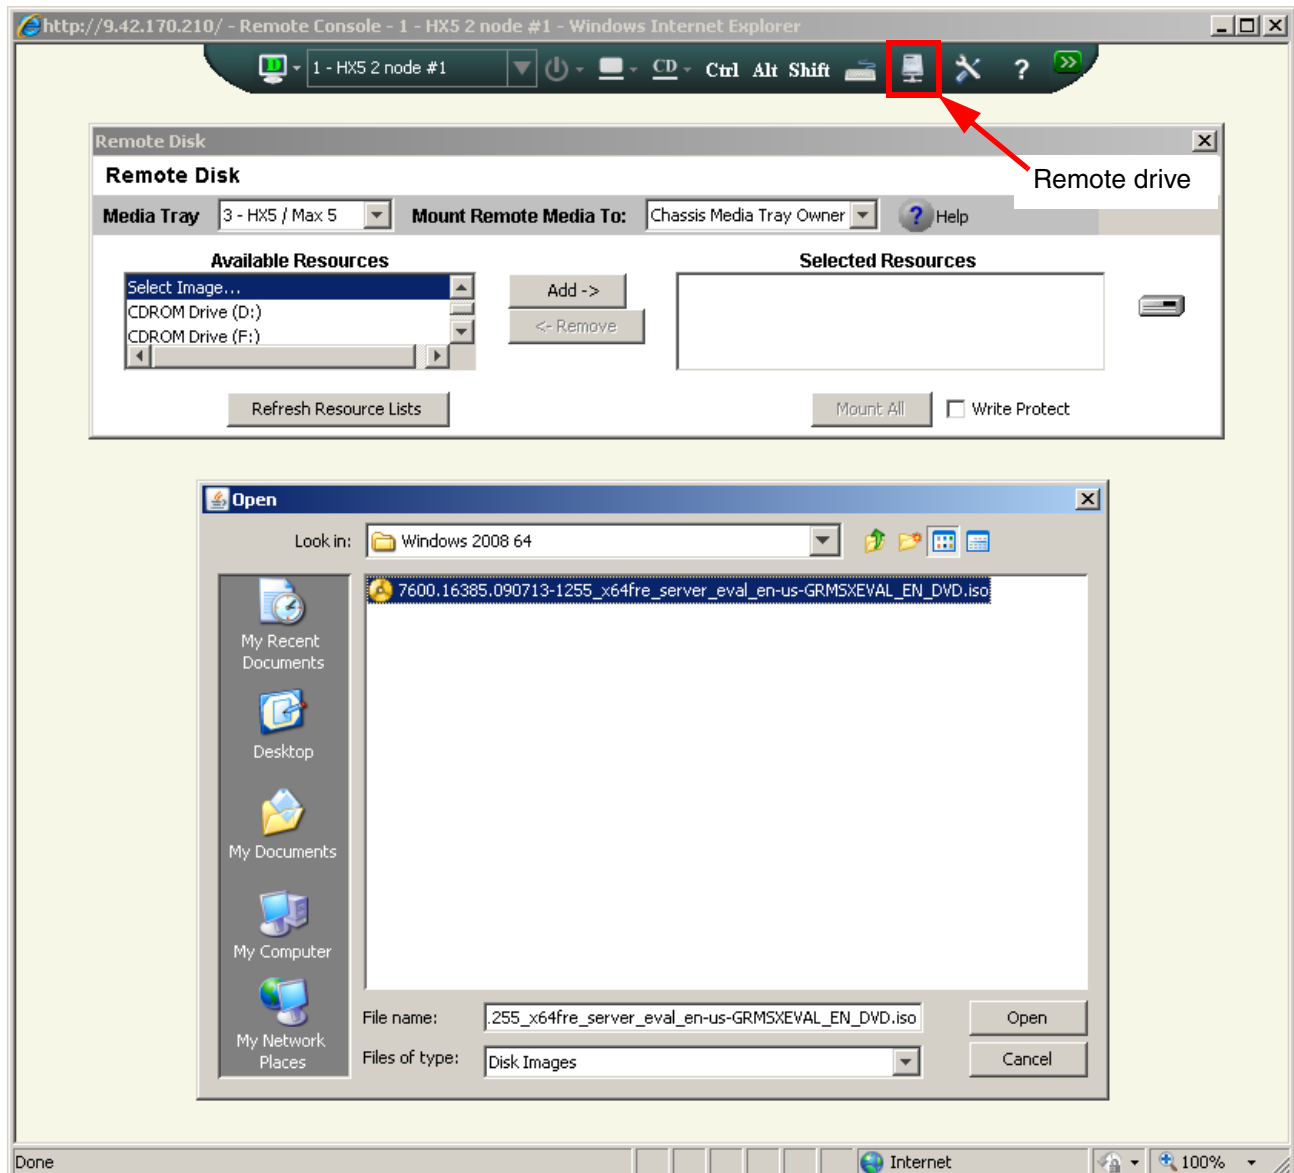

Figure 8-43 Mounting physical media or disk images
By clicking the **Remote Drive** icon  (as highlighted in Figure 8-43 on page 409), you can mount any local CD/DVD Rom drive from the management workstation from which you are running the remote control session. You can also mount a supported .ISO or .IMG type file, such as an operating system image file.
1. Click **Select Image** under the Available Resources area of the Remote Disk panel, as shown in Figure 8-43.